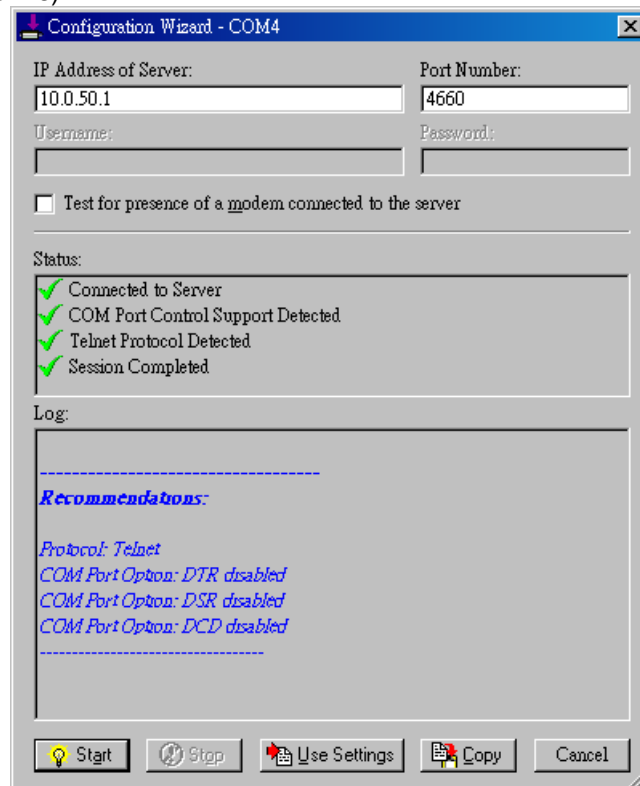

Figure 4.5 Configuration Wizard
Please configure each Serial/IP COM port as follows: (Figure 4.5)
- This important step verifies that the Virtual COM Redirector can communicate with the serial server using the settings that the user has provided. If the Log display does not show errors, click the **Use Settings** button in the wizard. This makes the recommended settings effective and returns one to the control panel to continue with the following steps. (Figure 4.5)